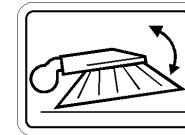

Fig. 3
**Folding apron (Fig. 3/1)**
**Parking brake (Fig. 3/2)**
**Shaking device (Fig. 3/3)**
Read and observe the operating manual (Fig. 3/4)
Lower/Raise side brush (Fig. 3/5)